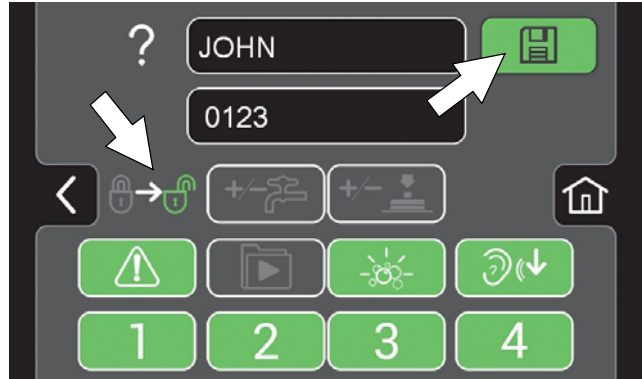

FIG. 167
6. Select the controls the new user should only have access to use (Figure 167). Green represents unlocked controls and gray represents locked controls. Press the flashing save button to save new profile.